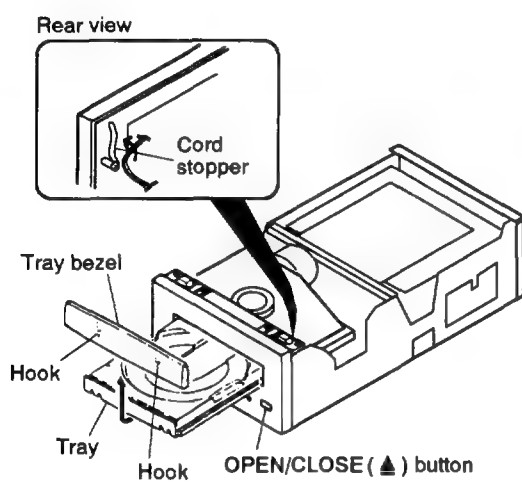

Fig. 1
### • Disassembling the Front Panel (Fig. 1 and 2)
2. Press the OPEN/CLOSE (▲) button and pull out the tray. (Fig. 1)
3. Remove the tray bezel. (Lifting up the tray bezel by pushing two hooks.) (Fig. 1)
4. Remove the lead wires from cord stopper. (Fig. 1)